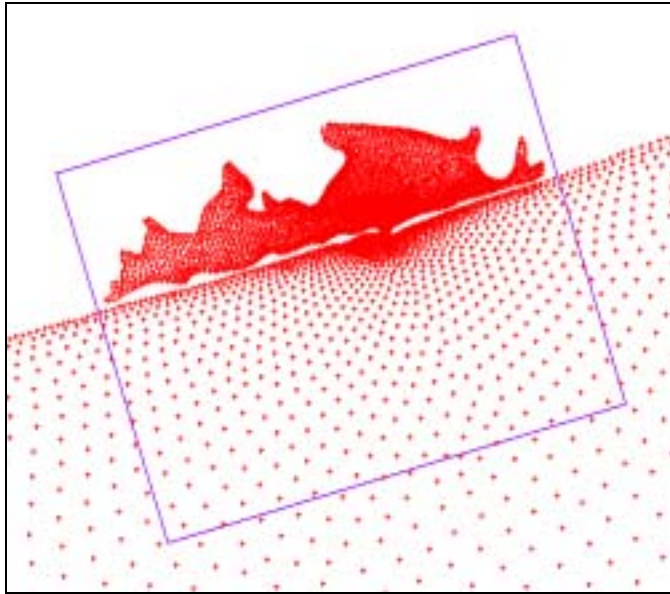

Figure 14-1. Zoomed in view of the scatter data set.
1. Switch to the *Scatter* module . Zoom  in on the dense part as shown in Figure 14-1. Zoom by dragging a box around a region or single clicking. Hold the *Shift* key while clicking to zoom out.
2. Select the *Select Scatterpoints*  tool and choose *Edit / Select With Poly*. This allows you to click on the screen and draw out a polygon. Any points inside the polygon will be selected. Select the points around the box shown in Figure 14-1 with about a 30% margin. Double-click on the screen to close the polygon and select the points.
6. Push *OK* when you are done positioning the frame to appear as Figure 14-1.